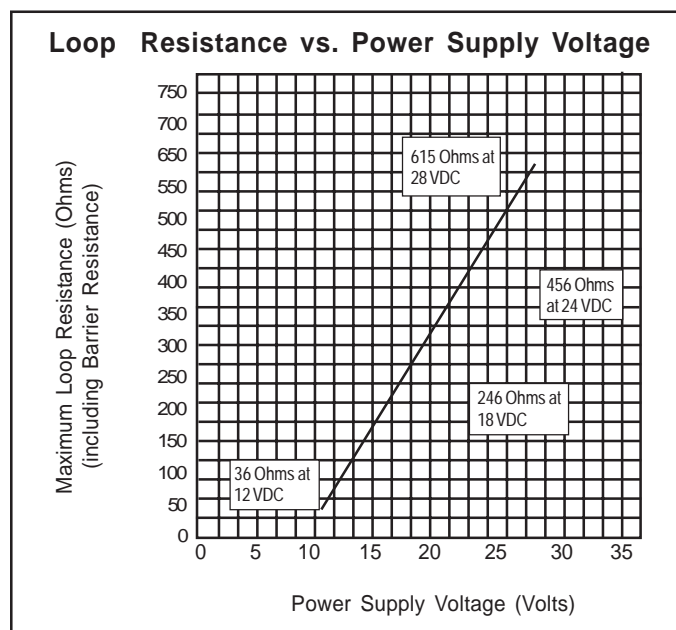

FIGURE 11
5. Do not exceed the maximum loop resistance for the circuit. (See Figure 11.)